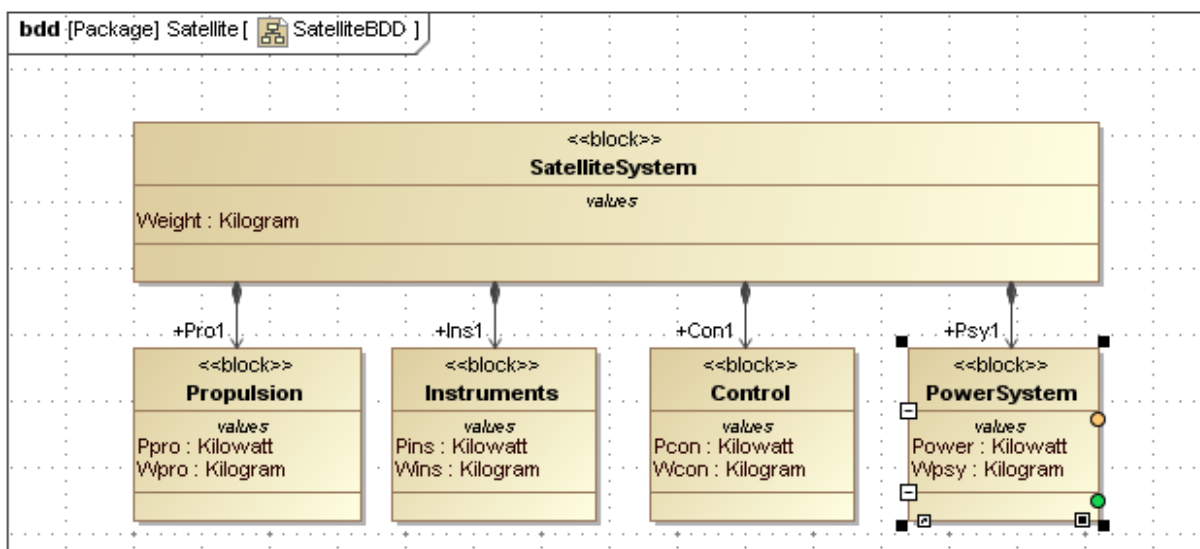

Figure 3.2 SysML Block Definition Diagram
- d. Repeat step b. for Instrumentation, Control, and PowerSystem subsystems with attribute names as shown in Figure 3.2
- h. Repeat steps f. and g. for Instrumentation, Control, and PowerSystem subsystems as shown in Figure 3.2.